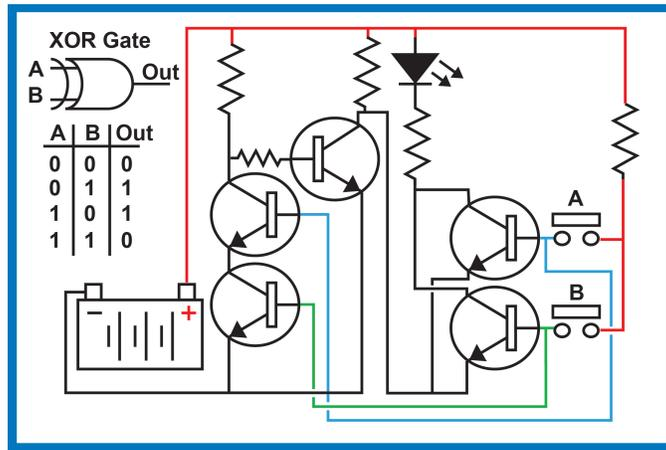

Figure 17
Now let's look at an XOR Gate, as illustrated in Figure 17. In this diagram there is a power source in the lower left corner. This will supply current to the circuit so it can operate. The circuit supplies current to the LED only if transistor A is on, or if transistor B is on. If transistor A and transistor B are on at the same time there is not a current path so the LED is turned off. The XOR gate LED default state is off (0). If transistor A switch is open (0), and transistor B switch is open (0), then the output state is off (0). If transistor A switch is closed it supplies current to both transistor A's bases turning them on. This will turn on both A transistors (1)(1) attached to switch A. This will complete the ground leg through transistor T1 that is defaulted to an on-state. This will turn on the LED, thus the output state is on (1). If transistor B switch is closed it supplies current to both transistor B's bases turning them on. This will turn on both B transistors (1)(1) attached to switch B. This will complete the ground leg through transistor T1 that is defaulted to an on-state. This will turn on the LED, thus the output state is on (1). If transistor A switch is closed, and transistor B switch is closed, then the current path is now through transistors A and B that are in series. This A B transistor circuit is now a ground circuit so the base voltage to transistor T1 is low, thus turning off transistor T1. In turn this opens the ground circuit for the LED turning it off. This output state is now in an off-state (0). This shows the function of the XOR Gate, where either gate can be closed A(1) or B(1), to get an output that is on (1). But If A and B are closed (1)(1) then the output is off (0).